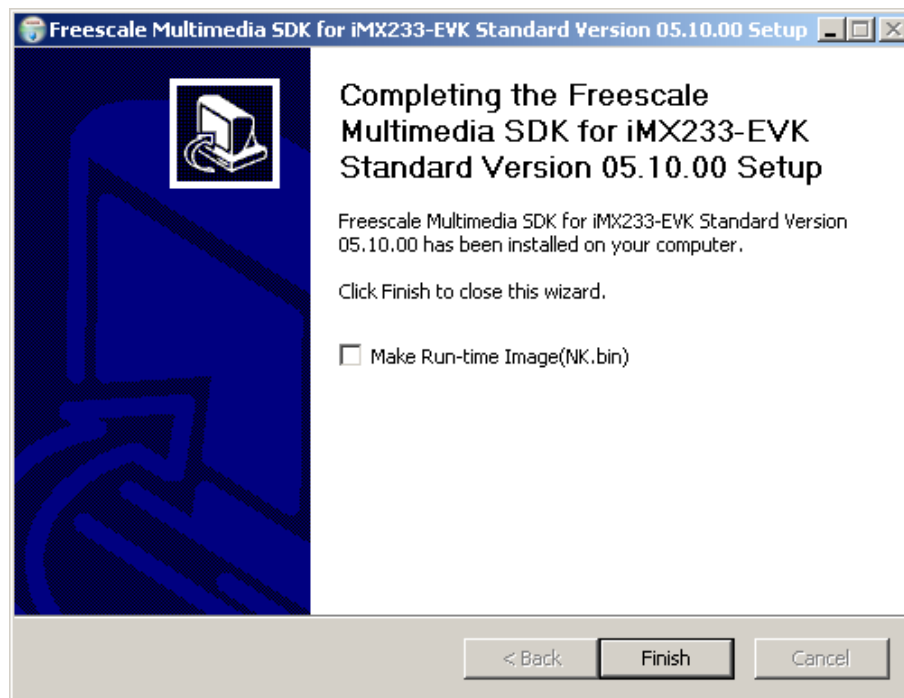

Figure 1-4 Setup Complete Screen
8. In the final installation window (Figure 1-4) you can select whether to do a clean build for the Windows CE OS Image automatically.